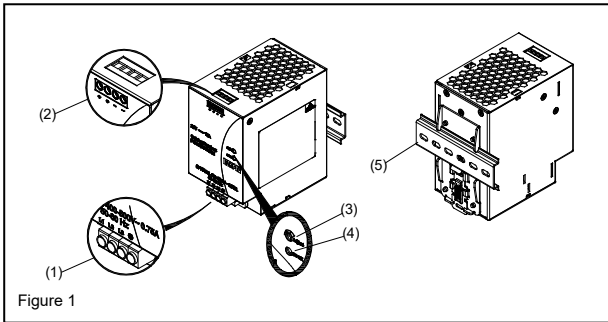
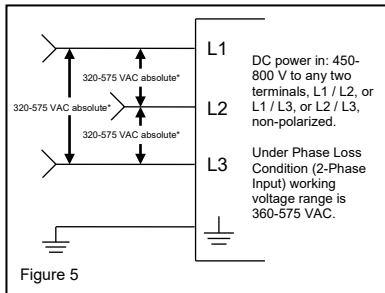

Figure 1
Figure 5
#### 2. Device description (Fig. 1)
#### 5.1. Input connection (Fig. 1, Fig. 5)
Use L1, L2, L3 and PE connections of input terminal connector to establish the 3 x 400-500 VAC connection. Fig. 5 shows the connection to the various network types.
#### 5.2. Output connection (Fig. 1 (2))
Use the "+" and "-" screw connections to establish the 24Vdc connection. The output provides 24 VDC. The output voltage can be adjusted from 24 to 28 VDC on the potentiometer. The green LED DC OK displays correct function of the output (Fig. 1 (4)). The device has a short circuit and overload protection and an overvoltage protection limited to 35 VDC.